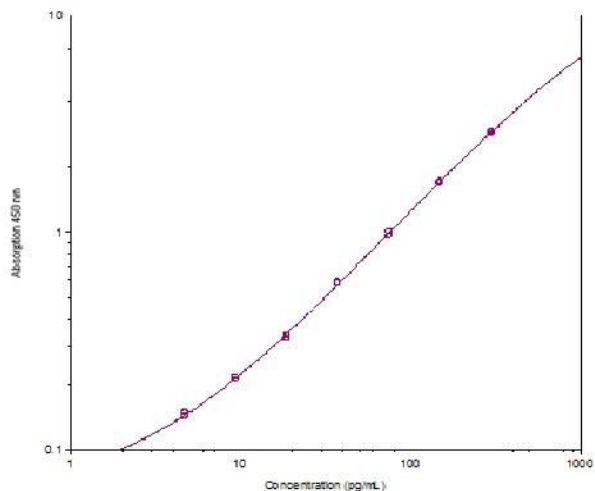

Fig. 9 Representative standard curve for human PD-L1 ELISA. Human PD-L1 was diluted in serial 2-fold steps in Sample Diluent.
- A representative standard curve is shown in Figure 9.